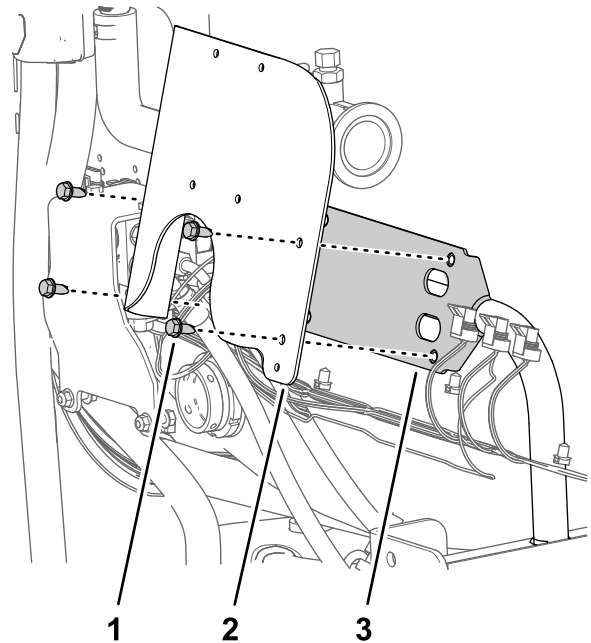

Figure 75
- Align the holes in the flow-meter bracket with the holes in the valve mount (Figure 75).